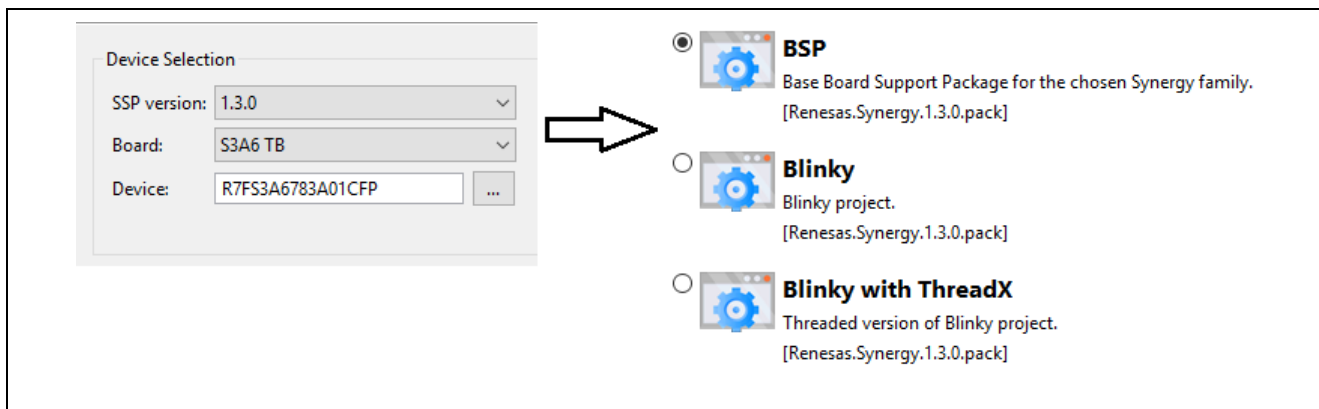

Figure 5. Synergy Project Creation
7. Choose the target board (for example, in case of TB-S3A6, choose **S3A6 TB** (see Figure 5)).
8. Choose **SSP version** (In case of SSP 1.3.0, choose **1.3.0** (see Figure 5)).